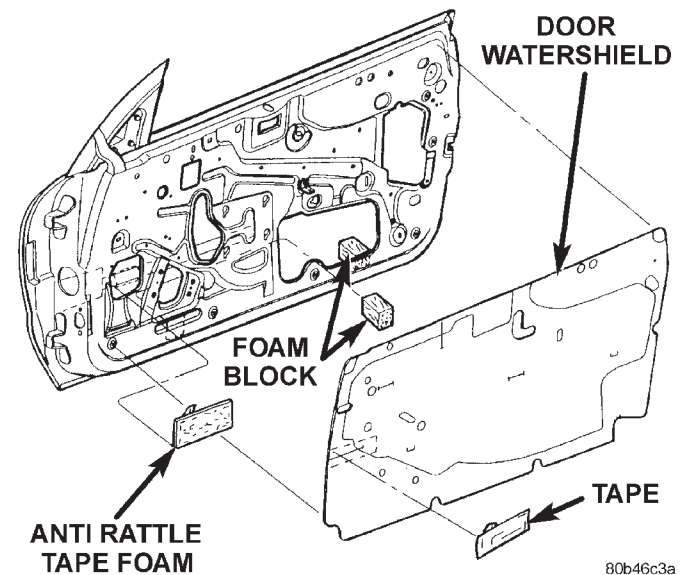

Fig. 30 Front Door Water Dam
- (1) Remove door trim panel.
- (2) Remove door speaker, if equipped.
- (3) Disconnect clip attaching lock linkage to lock button bell crank.
- (4) Peel water dam away from adhesive around perimeter of inner door panel (Fig. 30).